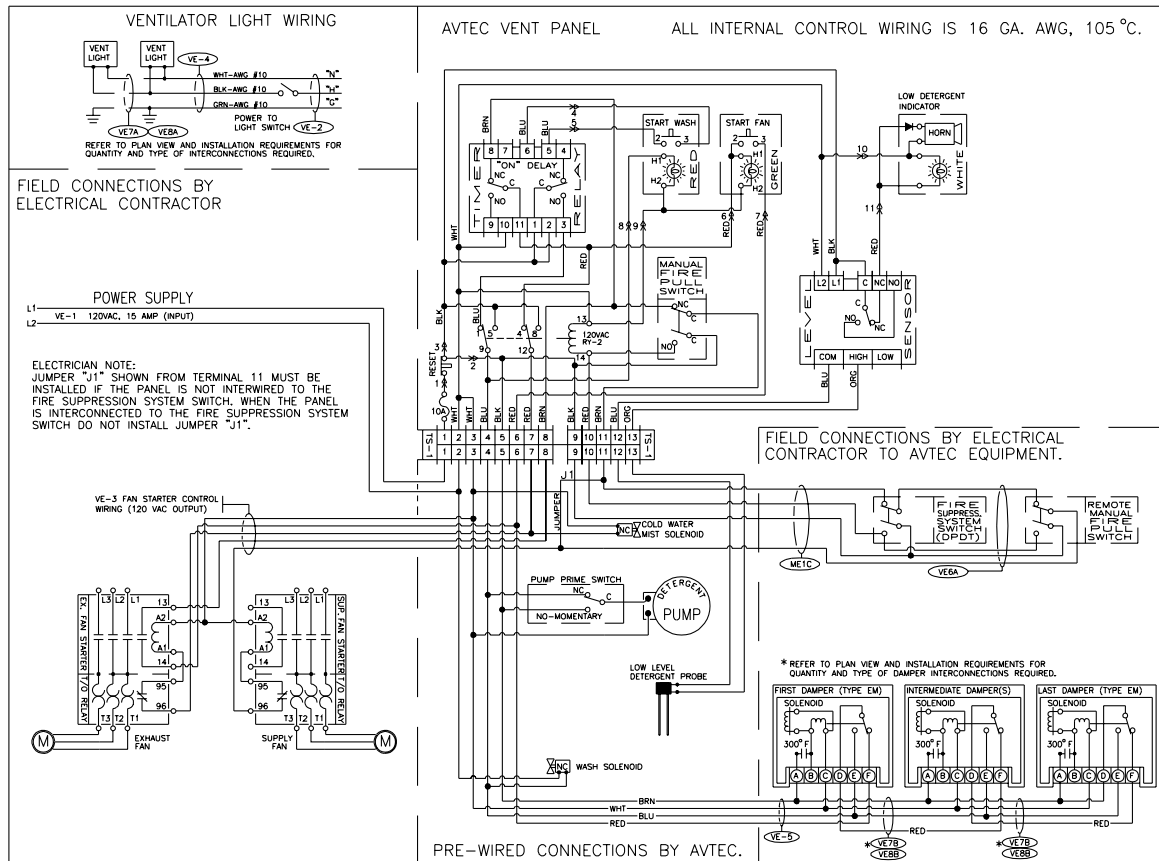

Fig. 7
A. VCW Control Panel [Refer to fig. 7]
1. Typical field connection terminals for VCW Control Panel are shown in fig. 7. For custom features such as sequential wash, time delay, etc. refer to AVTEC shop drawing in back of this manual.